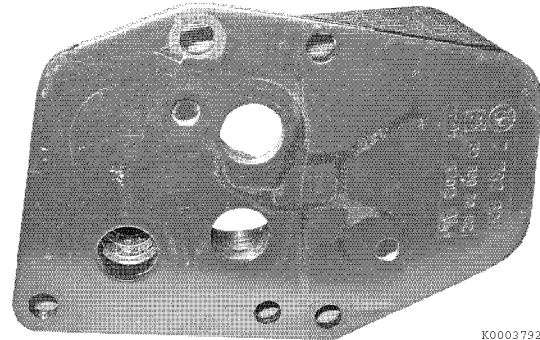

Figure 8-10
7. Inspect ports for evidence of blockage or corrosion (**Figure 8-10**). Clean or replace oil cooler as necessary.